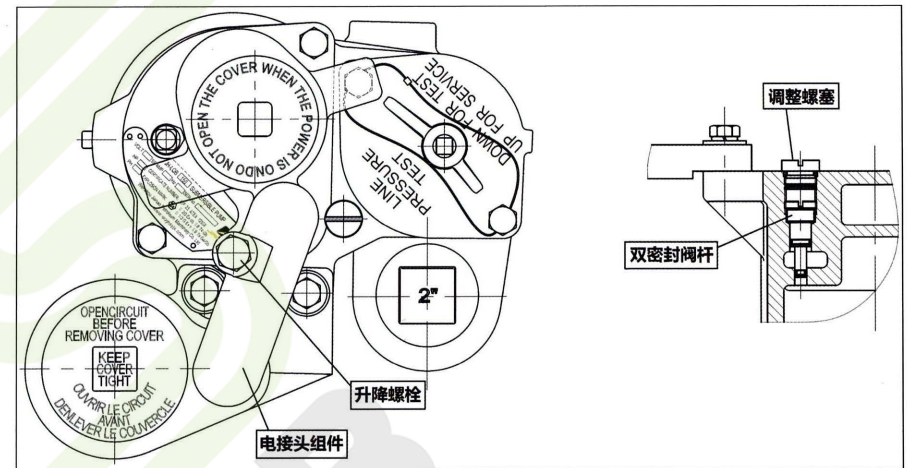

Figure 17 Manifold
- 2 Back our the electrical yoke disconnect bolt ( see Figure 17)